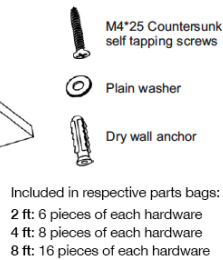

Fig. 9.4
4. Use the hardware in the kit to fix the luminaires with flanges to the ceiling, the screws will need to be evenly spaced. (Fig. 9.4)